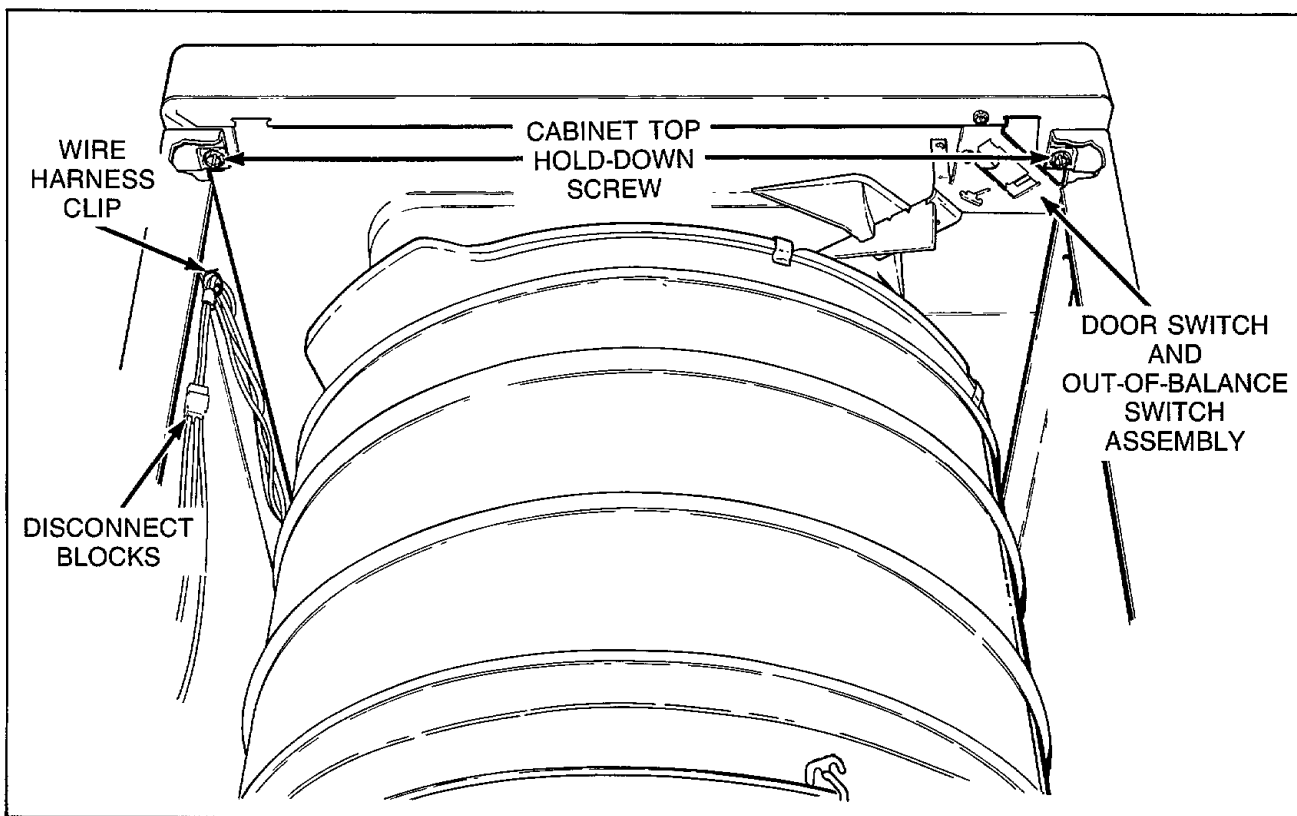

Figure 22
- b. Remove two cabinet top hold-down screws, *Figure 22*.
- c. Remove two cabinet top hold-down screws, *Figure 22*.